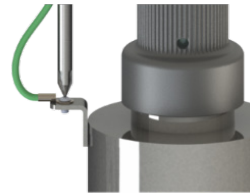

Figure 7. Ground Screw
Step 8: Using a Phillips screwdriver attach the ground screw on the ground lug to the UV chamber to ensure proper grounding (Figure 7).